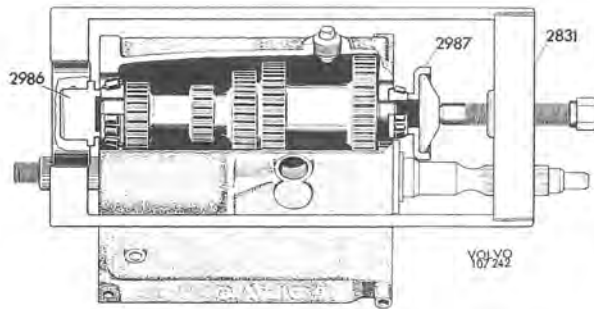

Fig. 4-33. Installing front inner ring
6. Turn the gearbox upside down. Press the front bearing inner ring onto the intermediate shaft with 2831, 2986 and 2987, see Fig. 4-33. Drive in the outer rings until they are about 3 mm (0.12") above the face.